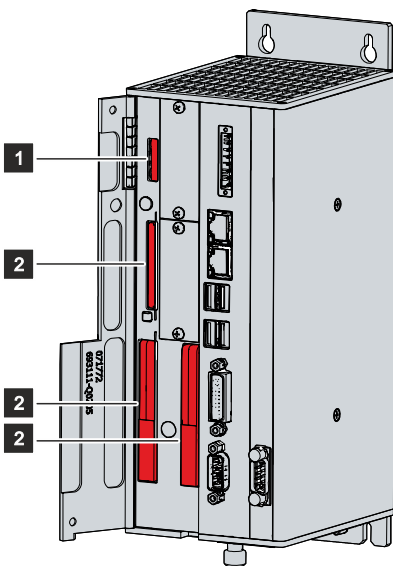

Fig. 24: C6930\_Battery and storage media
You now have access to the battery (1) and storage media (2) (see Fig. 24).